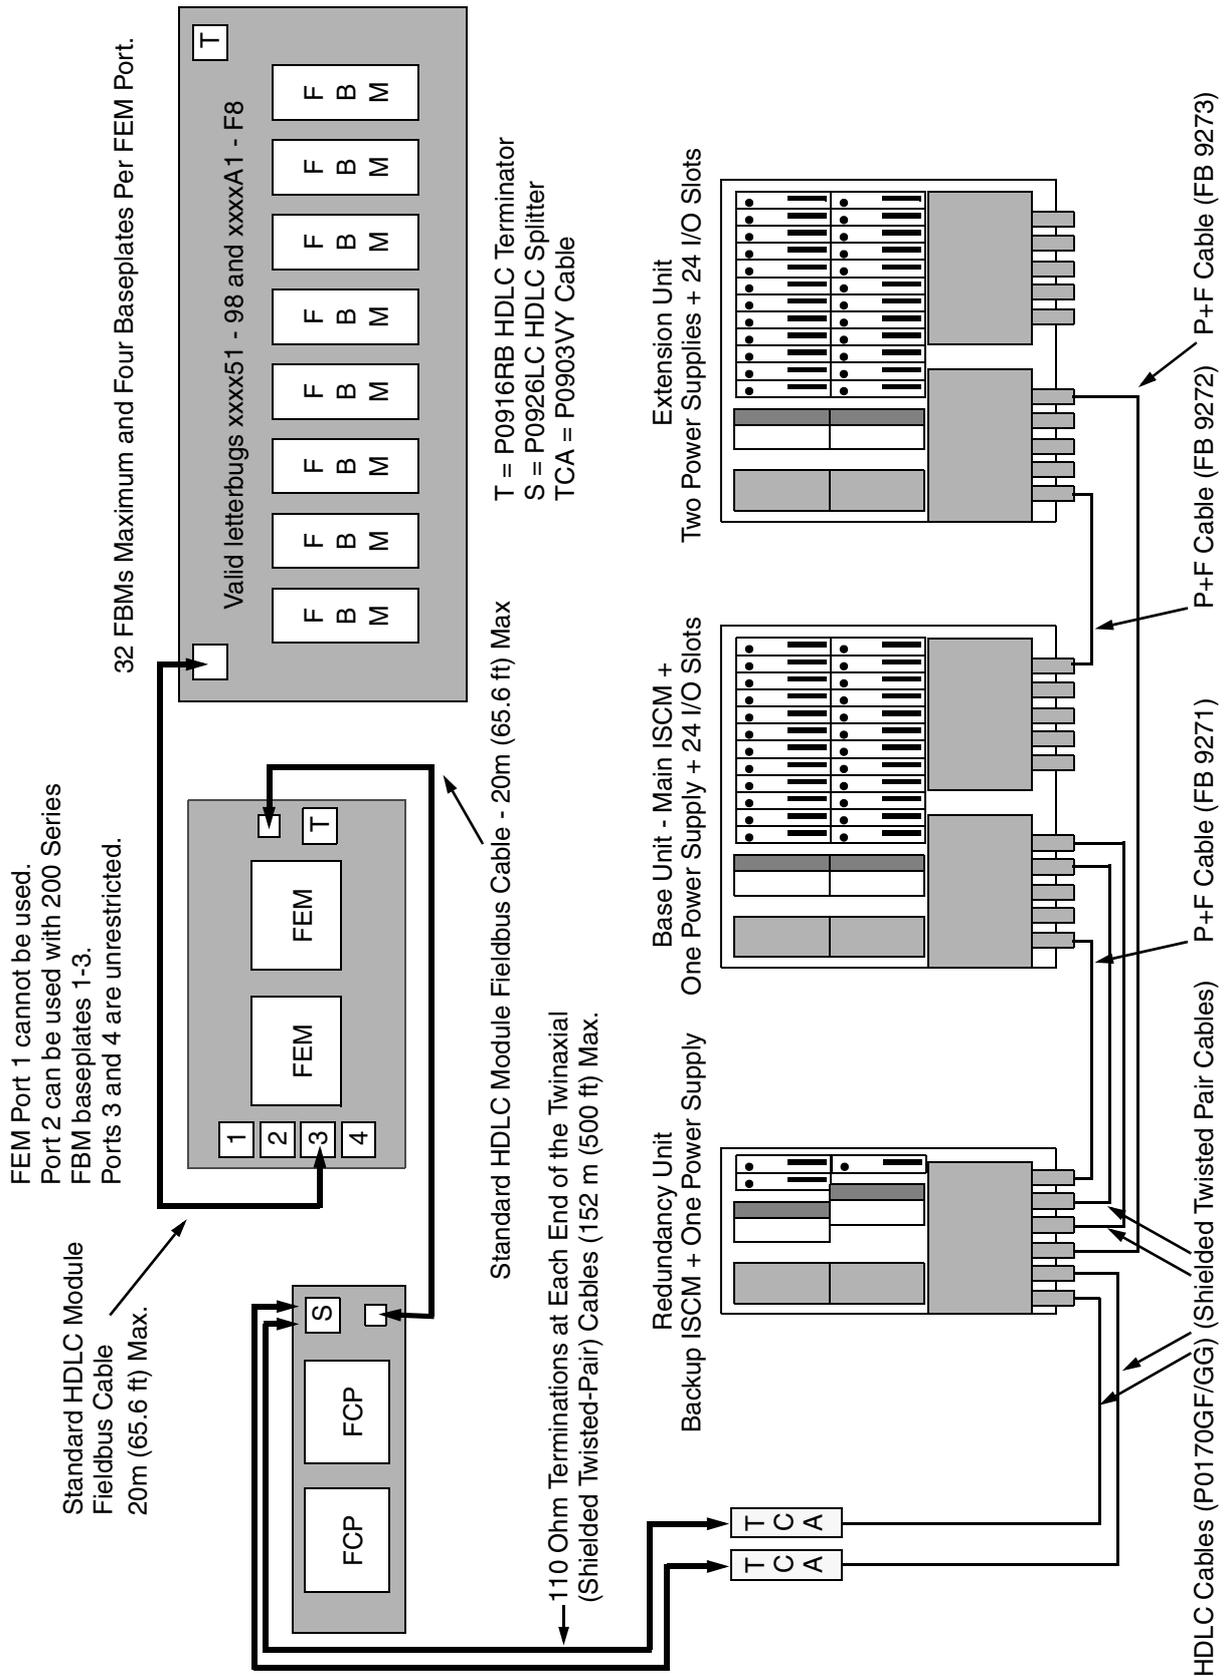

Figure A-3. Zone 1 (FB-Style) ISCM/FBM Configuration with ZCPs and FEM100s
- ◆ Figure A-3 “Zone 1 (FB-Style) ISCM/FBM Configuration with ZCPs and FEM100s” on page 134